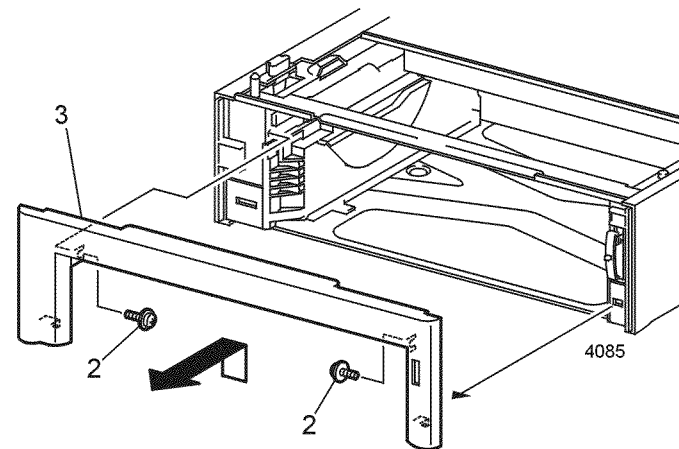

Figure 1 Front Cover
2. Loosen the two screws that secure the front cover (Figure 1).
3. Pull out on the top of the Front Cover and lift slightly to remove the cover (Figure 1).